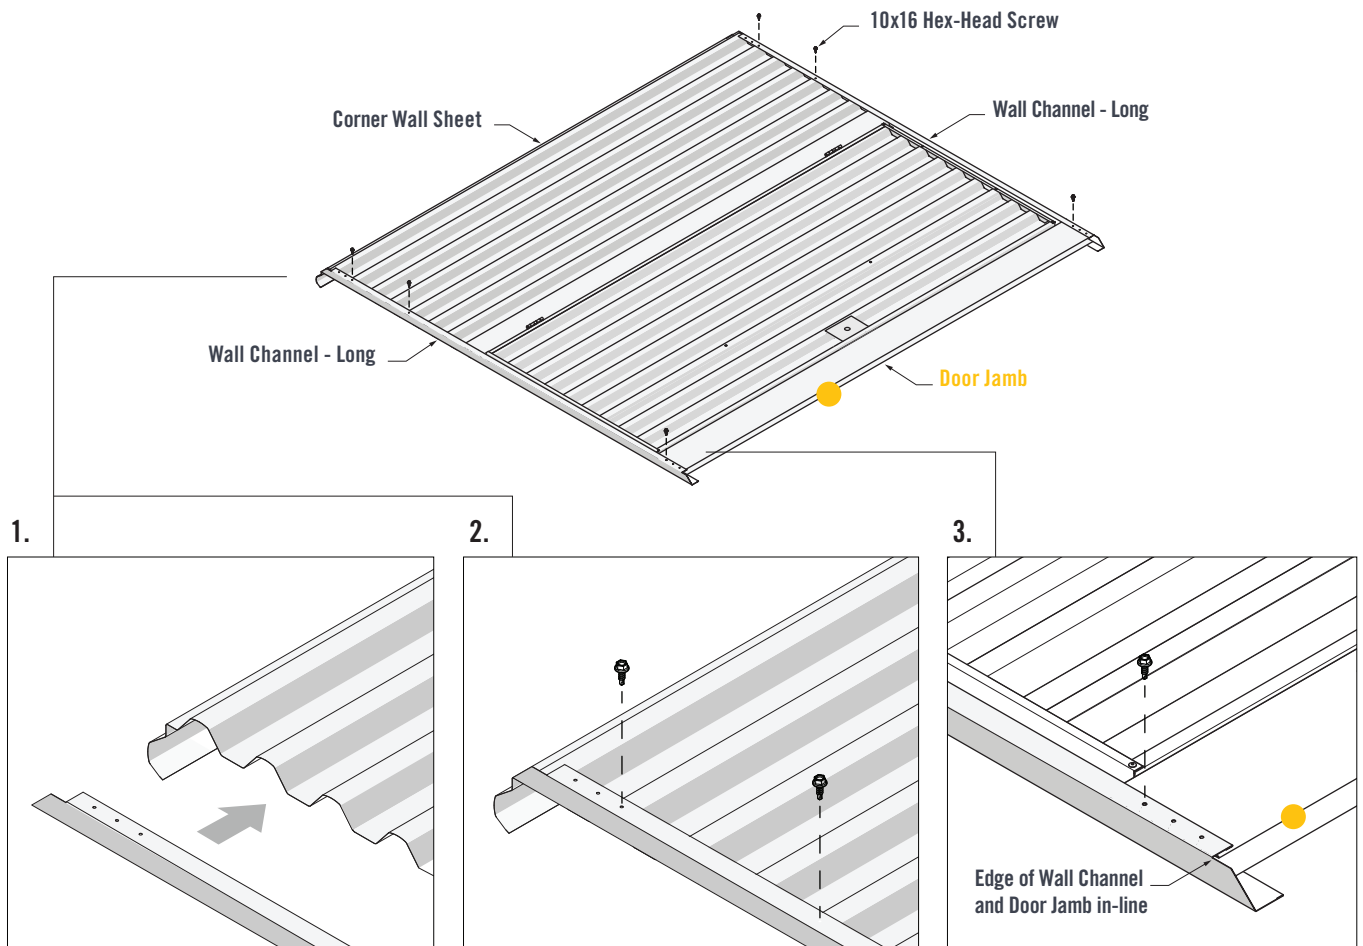

FIGURE 4.2
1. Fit both Wall Channels (Long) over the Corner Wall Sheet and Door Jamb. The end of the Wall Channels should fit up against the end of the Corner Wall Sheet (Figure 4.2).
2. Fasten one 10x16 Hex-Head Screw through the third pilot hole of the bottom and top Wall Channels and into the Corner Wall Sheet crest. Fasten one 10x16 Hex-Head Screw through the bottom and top Wall Channels and into the third Corner Wall Sheet crest (Figure 4.2).
3. Ensure the edge of the Wall Channels and Door Jamb are in-line. Fasten one 10x16 Hex-Head Screw through the third pilot hole of the bottom and top Wall Channels and into the Door Jamb (Figure 4.2).